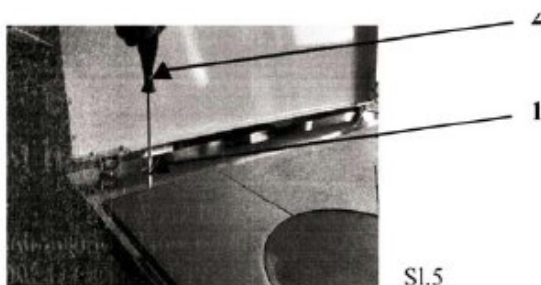

Figure 5
- Power controller, with the use of control button (Figure 5, Item 1), should correctly open and close controller flap.
Stove heating output is adjusted with output controller which automatically adjusts the moving of controller flap away, depending on the adjustment of control button (Figure 5, Item 1) and the height of water temperature.